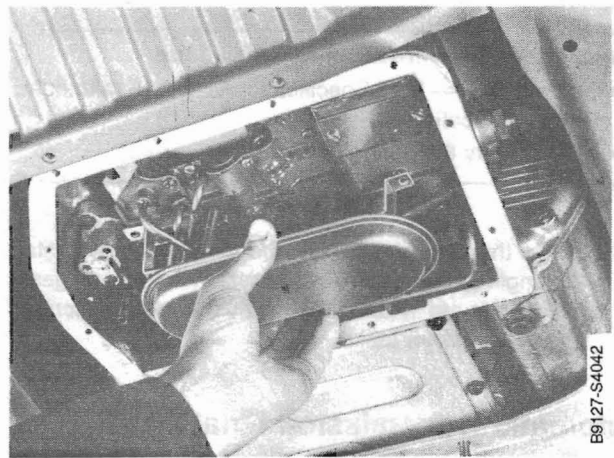

Fig. 22. ATF filter being removed.
5. Remove the filter mounting bolts and remove the filter. See Fig. 22. Clean the filter using a suitable solvent or fresh ATF.